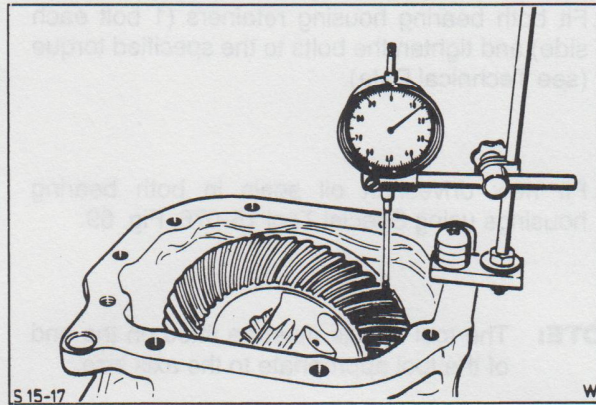

Fig. 67. Position plunger of dial test indicator at right angles to crown wheel tooth.
- Secure a dial test indicator to the axle casing using a holding fixture and position the dial test indicator plunger on one of the crown wheel teeth at right angles to the tooth flank, Fig. 67.